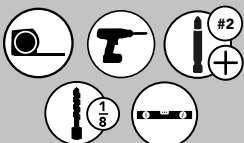
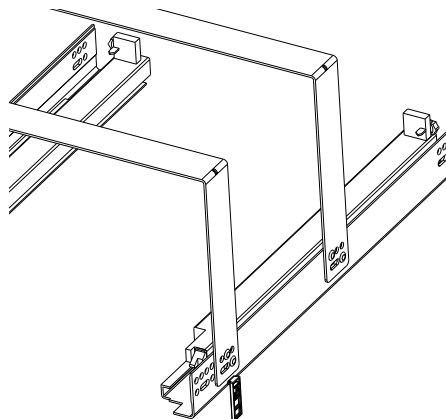

FIG. G-1
FIG. G-2
Using a 1/8" drill bit, pre-drill slide mounting holes 13/32" from the front edge of the cabinet. Attach the (2) 1/8" Blum spacers to both of the slides. Attach them to the 1st holes on each side. They will clamp down on the top of each slide (See Figure G-1). Place the slide set on the rear brackets. Then screw the slides set into the cabinet (See Figure G-2 & G-3).